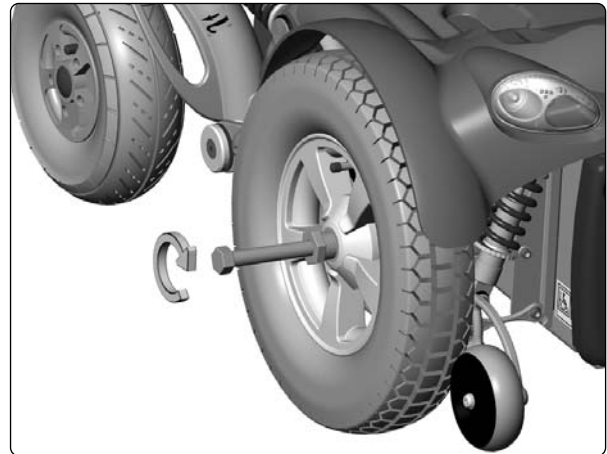

Fig. 12. Puller 304103-99-0.
4. Pull the wheel off the shaft. Use puller 304103-99-0 if the wheel is tight; see figure 12.